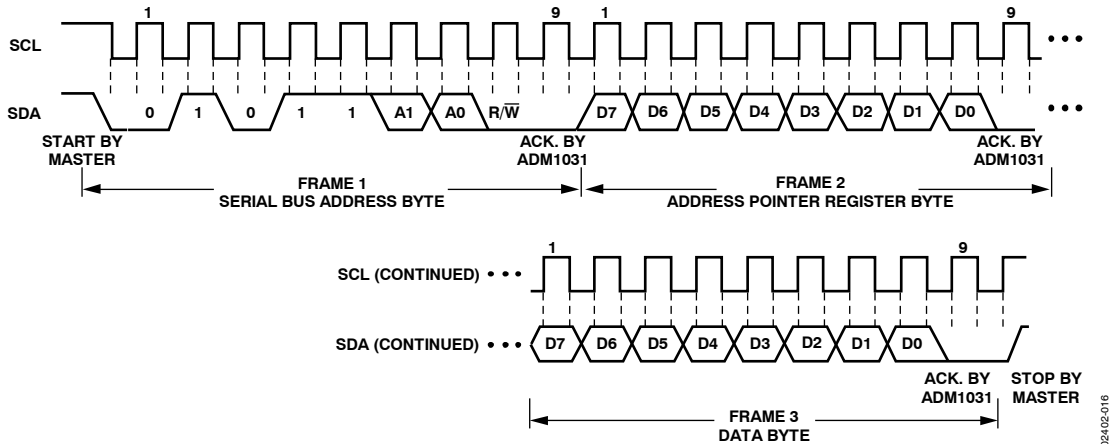
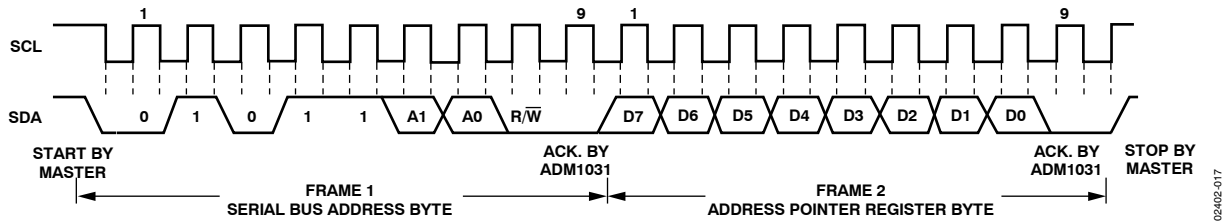
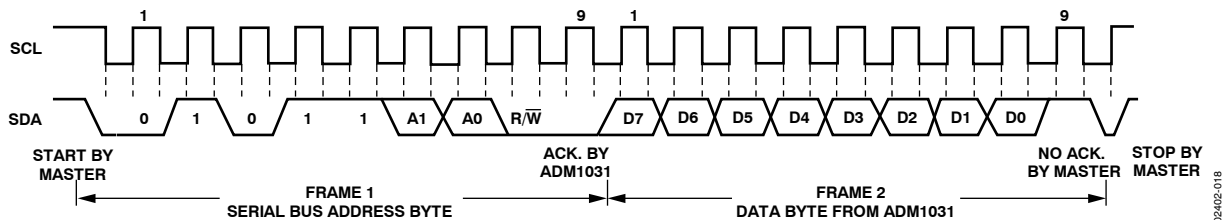

Figure 16. Writing a Register Address to the Address Pointer Register, then Writing Data to the Selected Register
Figure 17 Writing to the Address Pointer Register Only
Figure 18. Reading Data from a Previously Selected Register
This is illustrated in Figure 16. The device address is sent over the bus followed by R/W set to 0. This is followed by two data bytes. The first data byte is the address of the internal data register to be written to, which is stored in the address pointer register. The second data byte is the data to be written to the internal data register.
desired data register. This is done by performing a write to the ADM1031 as before, but only the data byte containing the register address is sent, as data is not to be written to the register. This is shown in Figure 17.
A read operation is then performed consisting of the serial bus address, R/W bit set to 1, followed by the data byte read from the data register. This is shown in Figure 18.
2. If the address pointer register is known to be already at the desired address, data can be read from the corresponding data register without first writing to the address pointer register, so Figure 17 can be omitted.
- In Figure 16, Figure 17, and Figure 18, the serial bus address is shown as the default value 01011(A1)(A0), where A1 and A0 are set by the three-state ADD pin.